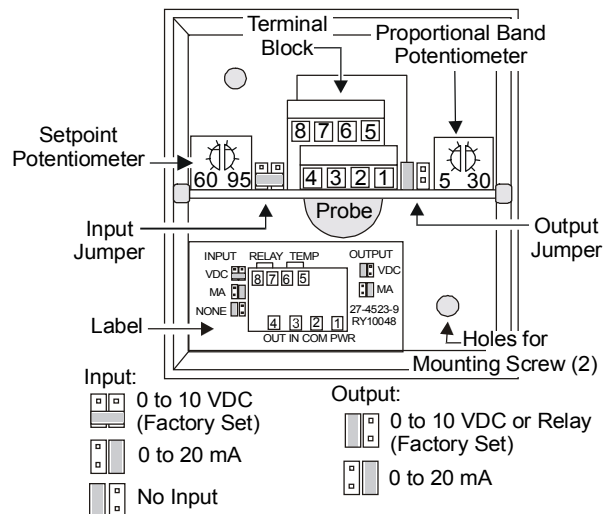
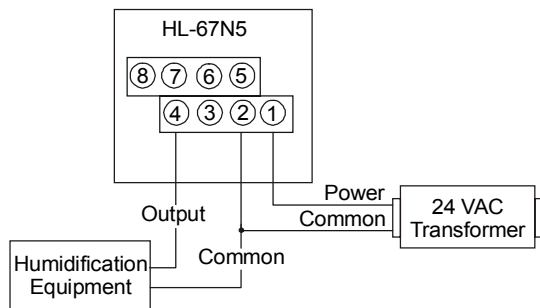

Figure 1: Internal View of the HL-67N5-8N00P
Figure 2: HL-67N5-8N00P as a Standalone Device
The HL-67N5-8N00P has a setpoint potentiometer (adjustable from 60 to 95% Relative Humidity [RH]) and a proportional band potentiometer (adjustable from 5 to 30% RH). Refer to Figure 1 to change the setpoint or proportional band for the application desired.
- a. If the HL-67N5 is used as a standalone device as shown in Figure 2, set the input jumper for no input. Set the output jumper for the type of signal the humidifier receives. (See Figure 1.)
2. If the HL-67N5-8N00P is not delivering an output, check the jumper positions and make sure they are appropriately selected for the application. (Refer to Figure 1.)
3. If the humidification equipment is cycling excessively, the proportional band setting may be too low. Set the proportional band potentiometer to a higher value. (See Figure 1.)